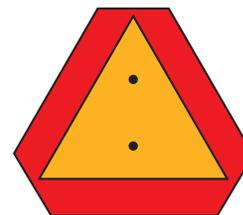

Figure 4-14: SMV Sign
- Transport during daylight hours whenever possible. Always use flashing warning lights, except where such use is prohibited by law. Make sure lights, reflectors and SMV emblem are clearly visible and operating. Remove any obstructions such as dirt, mud, stalks or residue that restricts view before transporting. **See Figure 4-14.**